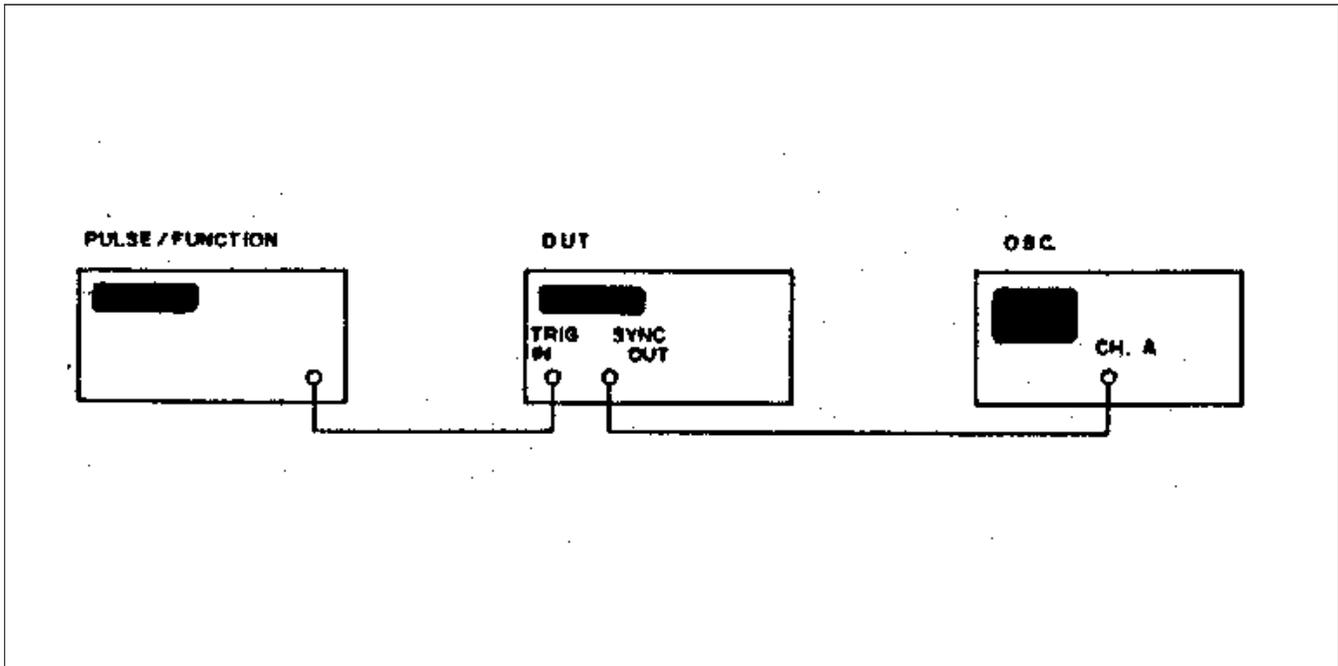

Figure 7-1. Trigger Input Sensitivity Adjustment.
- 2. Connect the test instruments as described in Figure 7-1.